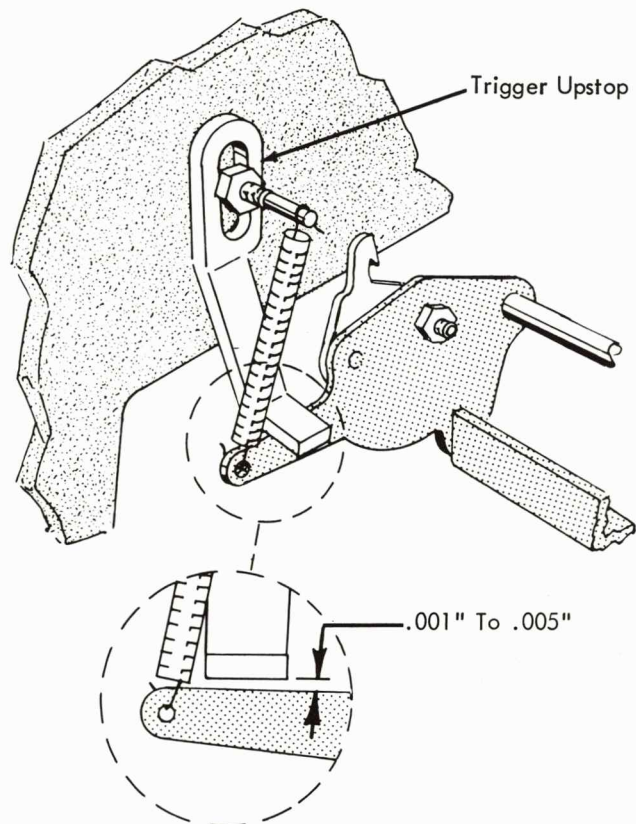

FIGURE 107. Trigger Lever Upstop
CAUTION: In adjusting the escapement trip link be sure that the trigger lever upstop (Fig. 107) and the adjustment screw in the spacebar latch lever (Fig. 136, page 41) do not restrict the upward travel of the trigger lever.
9. Trigger Lever Upstop - With the machine at rest and a clearance of .007" to .010" existing between the trigger and the lug on the torque bar, adjust the trigger lever upstop so that it has a clearance of .001" to .005" with the trigger lever (Fig. 107).